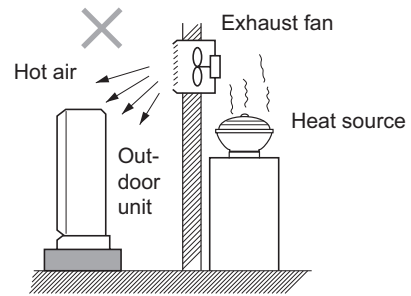

Fig. 1-5
- heat sources, exhaust fans, etc. (Fig. 1-5)